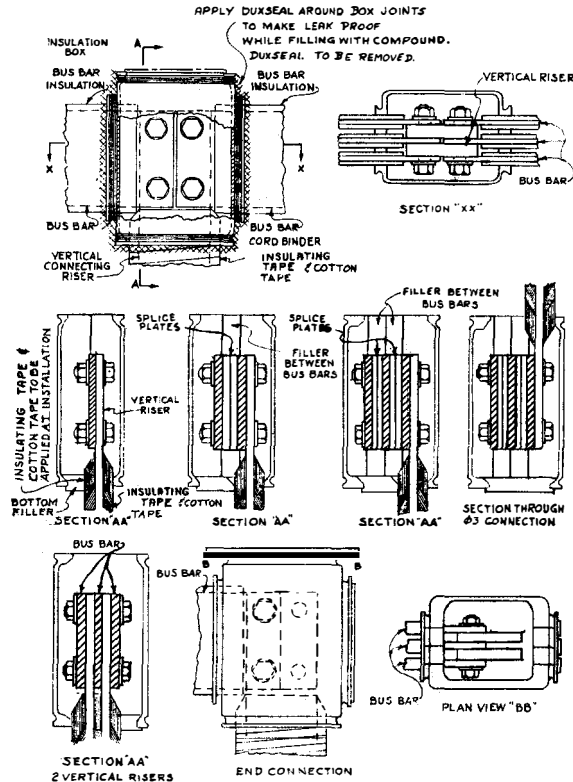

Fig. 25 Method of Making Bus Bar Connections
- (1) For 13.8 kv or 7.2 kv equipment:
- (b) Bolt splice plates and bus bars together, following assembly instructions above. See also Fig. 25 and Table A, Fig. 24.
(b) Bolt splice plates and bus bars together, following assembly instructions. See Fig. 25 and Table A, Fig. 24.